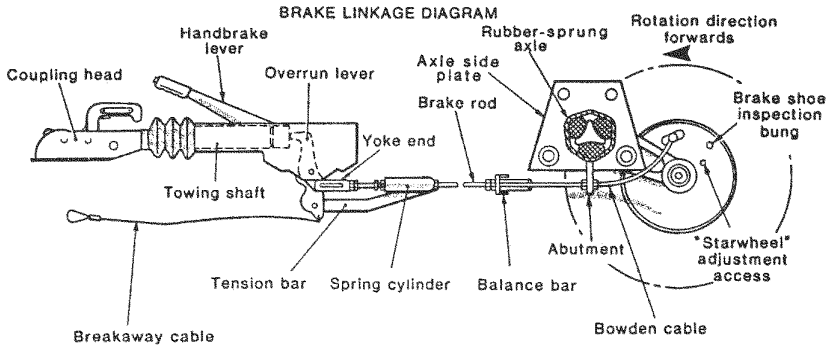
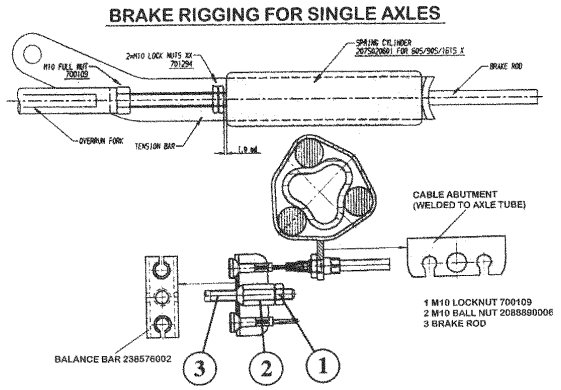

Fig. 10
Fig. 12
1. Ensure the towing shaft with coupling head is pulled FULLY FORWARD. (Fig. 10).
2. Release the handbrake to the FULLY OFF position. If the handbrake will not go down the whole way because of the fairing or any other obstruction; then the fairing must be cut away and/or the obstruction removed to achieve this desired position. It will not be possible to set up the braking system properly when the handbrake is not in the FULLY OFF position. (Fig. 10).
4. Remove the inner plastic bung from the backplate to expose the "starwheel" adjuster access. (Figs. 10 & 11).
When the inner cable is pulled out it should extend between 5 and 8 mm. (Fig.12). (On tandem axles a double abutment (bracket) is fitted to the front axle ONLY).
10. Ensure the balance bar (compensator) is being pulled evenly (Figs.10 & 12). Excessive movement to this bar (double on tandem axles) would indicate possible incorrect adjustment (if appropriate, repeat step No. 7 - Fig. 12).
12. Remove the slack in the brake rod by adjusting the long ball nut, rear of the balance bar, ensuring the overrun lever makes contact with the end of the towing shaft. Note! Over adjustment to the long ball nut (Fig. 12/Item 2) could induce movement of the inner brake cable, reducing the effective clearance of the brake shoes. If the overrun lever will not make contact, it is possible the two lock nuts, forward of the spring cylinder, are incorrectly adjusted. Loosen the nuts and adjust brake rod as above (Figs. 10 & 12).
13. Adjust the two locking nuts, forward of the spring cylinder (Fig. 10), (on some chassis a single Nyloc nut is used) to give 1 mm of clearance on the spring cylinder. This cylinder (the energy store for the handbrake operation) must be able to rotate **ONLY**, not slide on the brake rod. (Fig. 12). **(If the overrun assembly is fitted with a gas strut handbrake then no spring cylinder is fitted - therefore ignore this paragraph).**